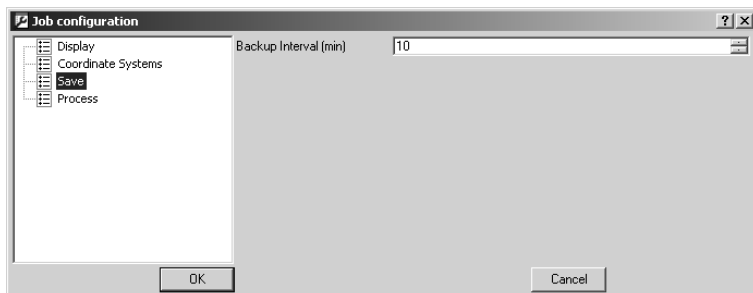

Figure 5-16. Job Configuration – Click Save and Set Backup Interval
- To change autosave time intervals when editing a file, click **Save** in the *Job Configuration* dialog box and type the desired interval (Figure 5-16).